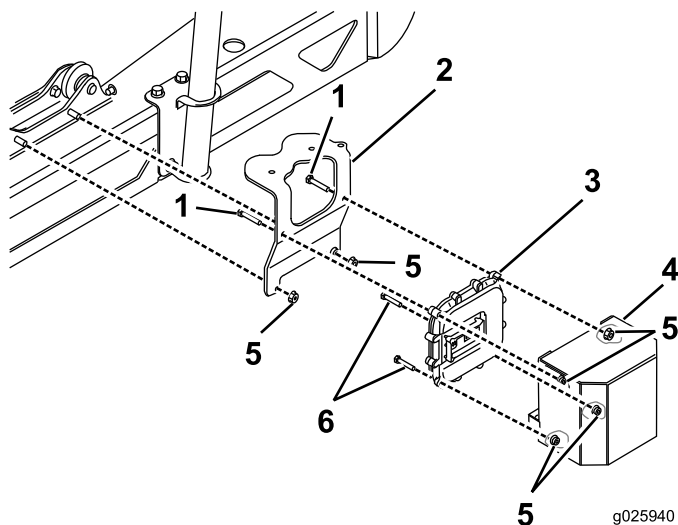

Figure 16
2. For model 1750, install the electronic controller, bracket and cover to the machine (Figure 16).